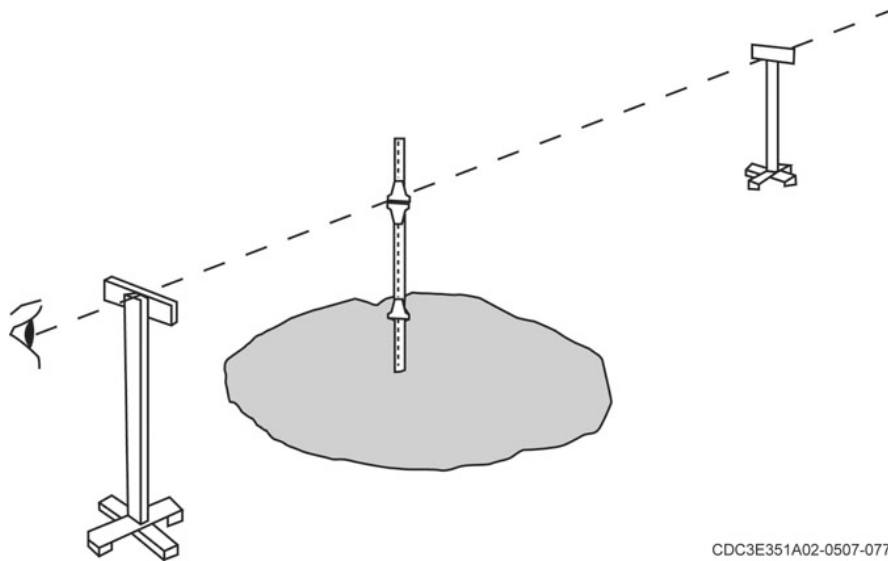

Figure 3-1. Repair quality criteria.
**NOTE:** The filled-in crater should be flush with adjacent undamaged pavement surfaces, but  $\frac{3}{4}$ -inch, plus or minus, is allowed (fig. 3-1). To fully understand RQC procedures, you should refer to TO 35E2-4-1, *Repair Quality Criteria System for Rapid Runway Repair*.